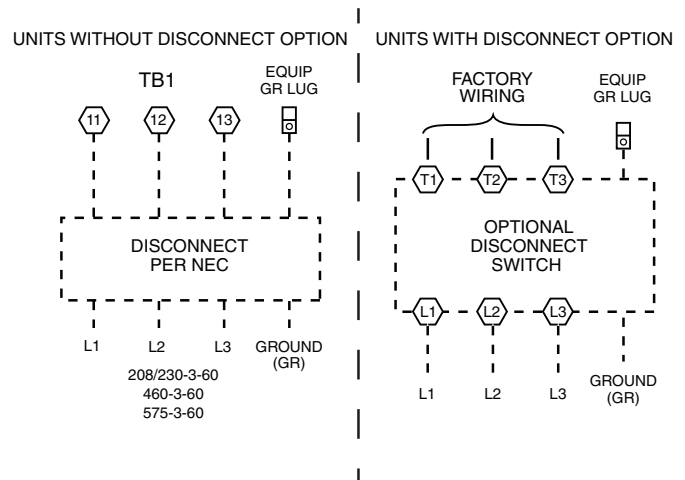

Fig. 39 — Power Wiring Connections
All field wiring must comply with local codes. Size wire based on MCA (Minimum Circuit Amps) on the unit informative plate. See Fig. 39 for power wiring connections to the unit power terminal block and equipment ground. Maximum wire size is 70.0 mm² (2/0 AWG) per pole.
3. Install power lines to terminal connections as shown in Fig. 39.